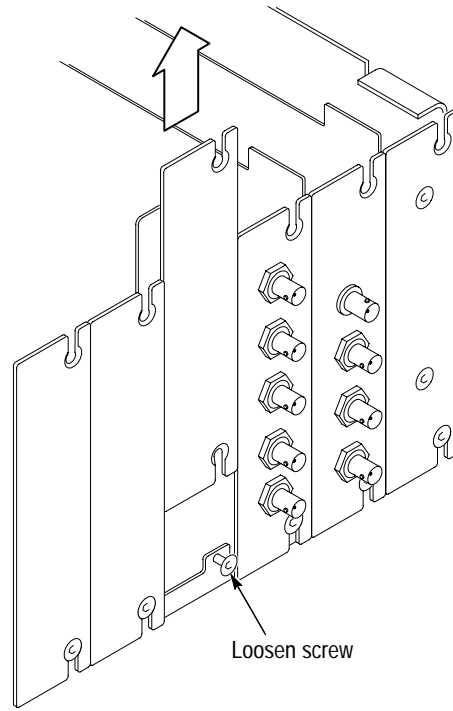

Figure C-3: Removing a rear panel cover
5. Remove the rear panel covers from slots 10 and 9. Figure C-3 shows how to remove a rear panel cover. Do not remove the bottom screw, just loosen it. You will use it later to secure the module.